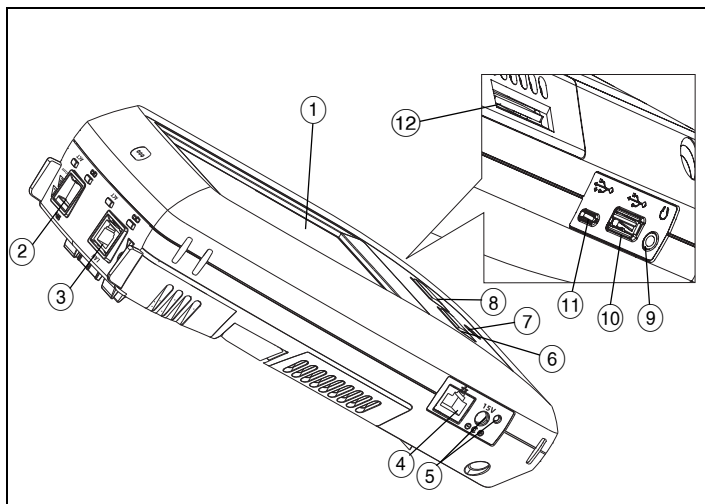

Figure 1. Connectors, Keys, and LEDs
Connect the network under test to a port (Items ② or ③ in Figure 1). You can use the RJ45 Ethernet jack for copper cable, or an SFP+ inserted in the SFP+ receptacle for fiber cable.